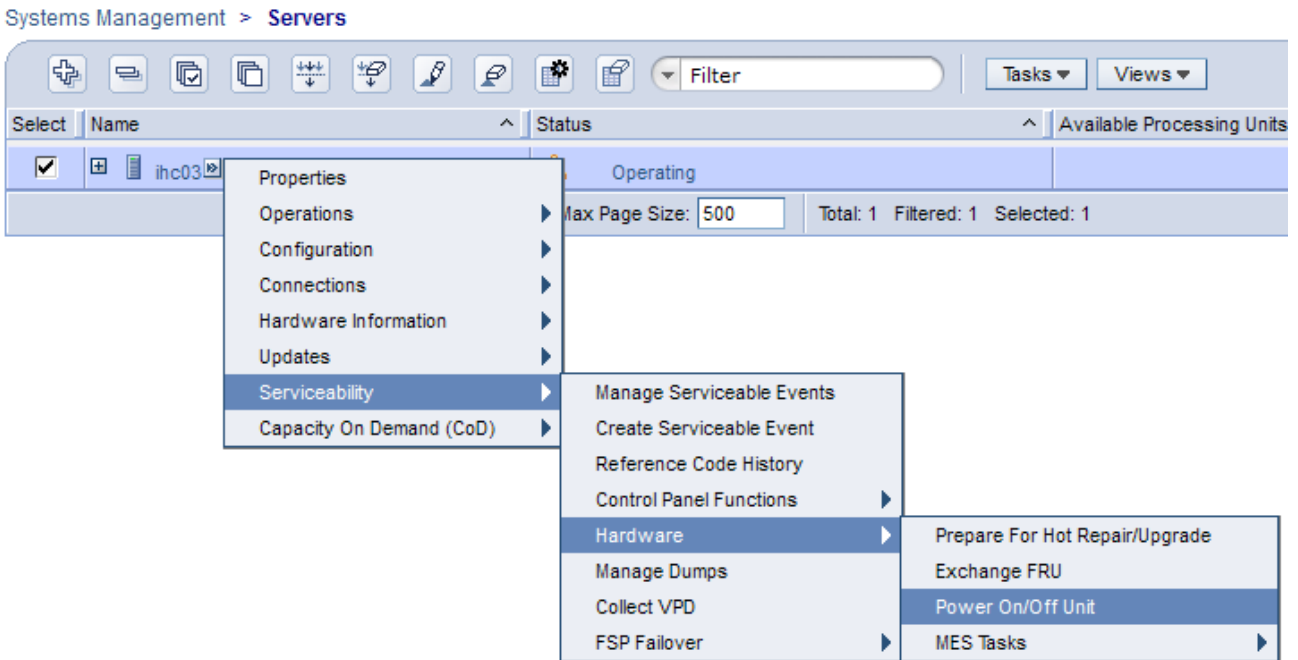

Figure 12 Power On/Off Unit
STEP 28 From the **Tasks** menu *select* **Serviceability -> Hardware -> Power On/Off Unit**. See Figure 12.